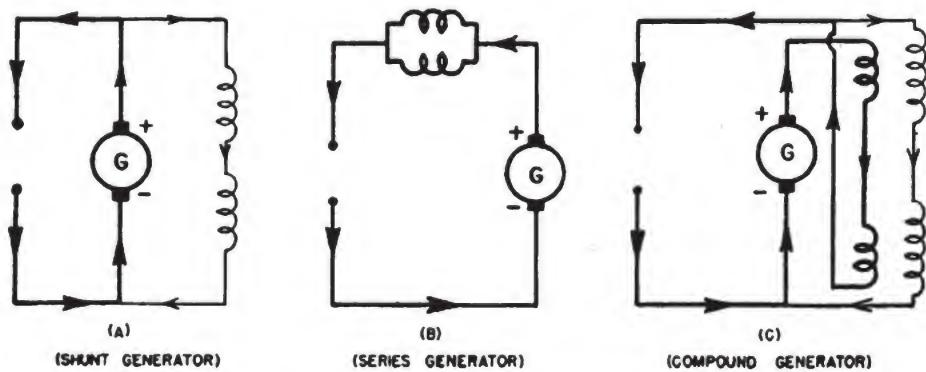

Figure 137.—Types of generators.
In (A) of figure 137, you see the connections used for the SHUNT generator. The field windings are in series. But the entire field is parallel or shunted across the armature circuit. The diagram indicates the paths taken by the field and armature currents. This type of generator is used in Naval aircraft almost exclusively.
In (B) of figure 137, you see the connections used in the SERIES generator. The field windings
The COMPOUND generator in (C) of figure 137 uses both series and shunt windings. In the case of the shunt generator, the terminal voltage of the generator drops when the load increases, because the increase in current causes an increase in the  $IR$  drop inside the armature. The compound